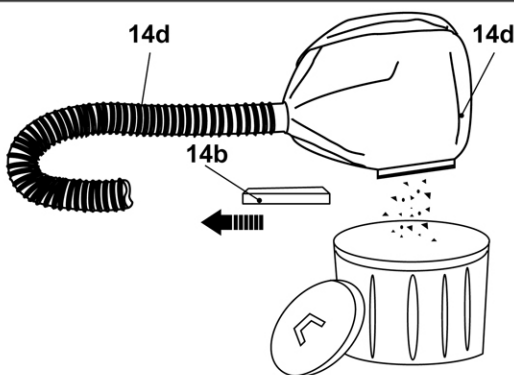

Fig. 5
- > Remove the vacuum hose (14d) with dust bag (14) from the product, if necessary.
- > Hold the dust bag (14) over a suitable rubbish bag.
- > Pull the clasp (14b) off the dust bag (14) and empty it into the rubbish bag (Fig. 5).
- > Slide the clasp (14b) onto the rails on the dust bag (14) and re-attach the vacuum hose (14d) and dust bag (14) to the product.